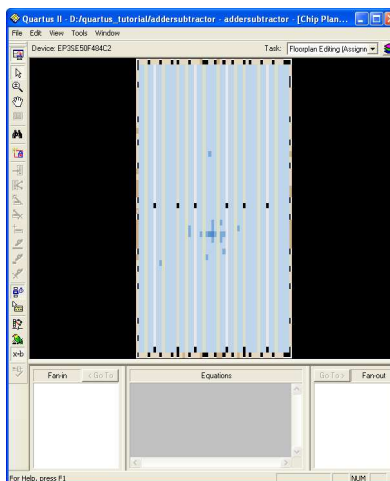

Figure 23: View of the floorplan.
5. An indication of where the circuit is implemented on the chip is available by selecting Tools > Chip Planner(Floor Plan and Chip Editor), or by clicking on the icon . This opens the Chip Planner display, as shown in Figure 23. This display highlights the location of the logic elements used to implement the circuit. To make the image appear as shown in Figure 23 you may have to select View > Fit in Window (shortcut Ctrl-w), and it can be expanded to fill the screen by clicking the Full Screen icon  in the left hand toolbar.
3. Right-click on the same name and choose **Locate > Locate in Chip Planner(Floor Plan & Chip Editor)** from the pop-up menu that appears. This causes the Quartus® II software to display the floorplan, as in Figure 23, and highlight the part that implements the adder subcircuit.